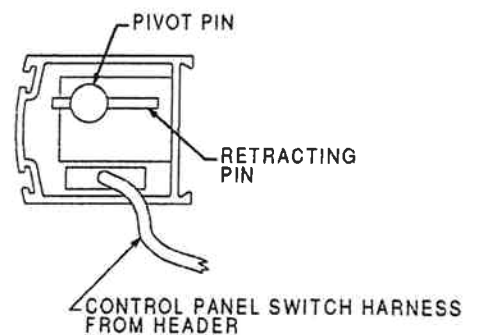

Figure 14
- 2 Position swing panel over bottom pivot. Route Control Panel Harness past swing panel top pivot (Ref. Fig. 14).